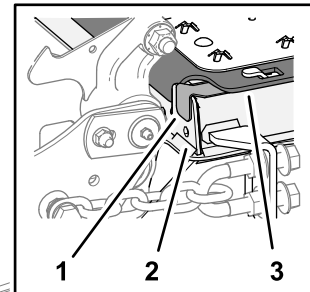

Figure 29
1. Install the deck shims at the front of the deck as shown in Figure 29.